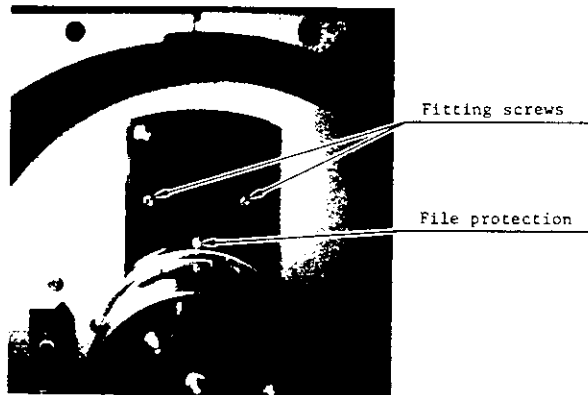

Figure L.17 File protection assembly (front view of MTU)
- (1) Remove the two screws securing the file protection assembly on the panel shown in Figure L.17.